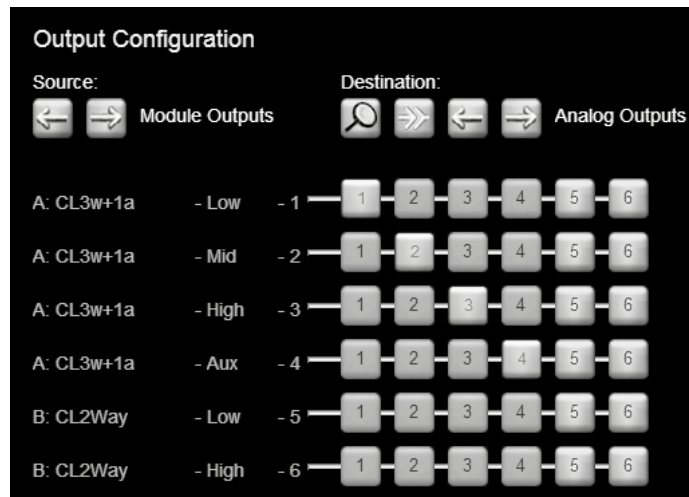

Figure 6.1: Classic 3+1 Analog Output Configuration
27. Verify that the Output Configuration is routed as shown in Figure 6-1 below where Source = Module Outputs and Destination = Analog Outputs.